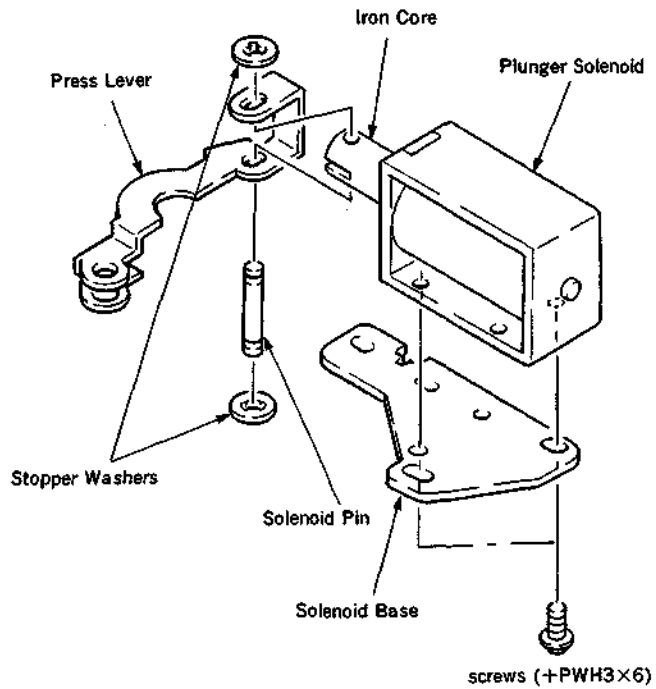

Fig. 3
- (5) Remove the two screws, then remove the solenoid from the solenoid base. (Fig. 3)
- (6) Remove the two stopper washers, then remove the solenoid pin and the pressure lever from the iron core. (Fig. 3)
- (8) Stop the S side reel table manually, and install the torque meter. (Fig.3)
- (14) Stop the T side reel table manually, and install the torque meter. (Fig.3)
- (15) Press the (↑)(↓) keys to select T-REEL TORQUE from the menu.
- (16) Press the (→) key to display the next screen.